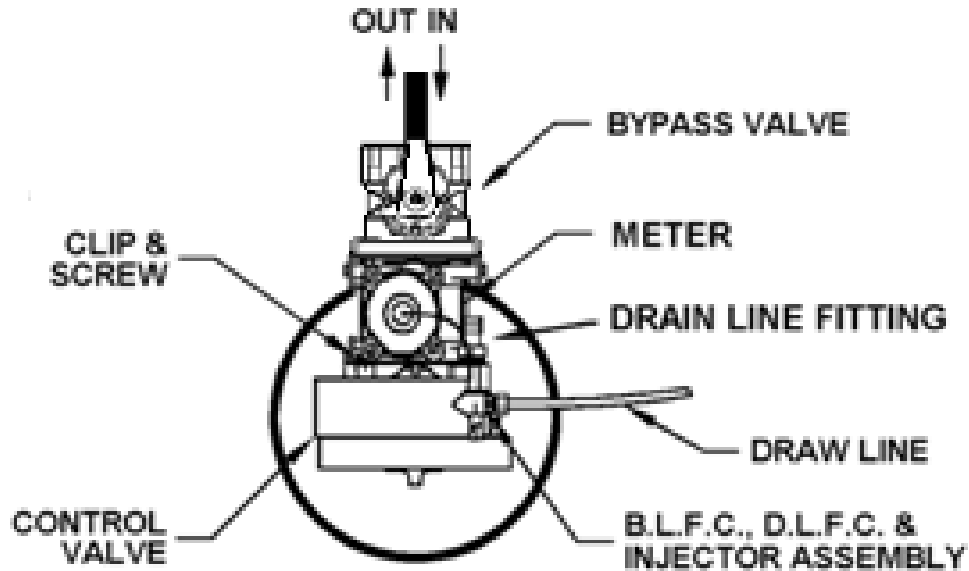

FIGURE 2: Top View of Control Valve
- STEP 2:** Use clips and screws provided and attach bypass valve to the inlet/outlet of the meter module. See figure 2 below.